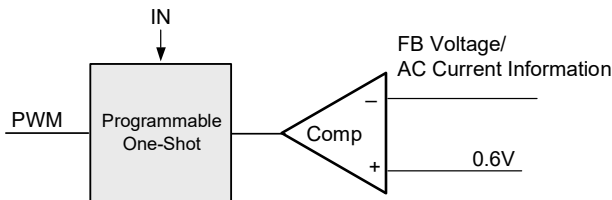

Figure 3. Simplified Control Schematic of AOZ2263NQi-12
The simplified control schematic is shown in Figure. 3. The high-side switch on-time is determined solely by a one-shot whose pulse width can be programmed by one external resistor and is inversely proportional to input voltage (IN). The one-shot is triggered when the internal 0.6V is higher than the combined information of FB voltage and the AC current information of inductor, which is processed and obtained through the sensed lower-side MOSFET current once it turns-on. The added AC current information can help the stability of constant-on time control even with pure ceramic output capacitors, which have very low ESR. The AC current information has no DC offset, which does not cause offset with output load change, which is fundamentally different from other V^2 constant-on time control schemes.